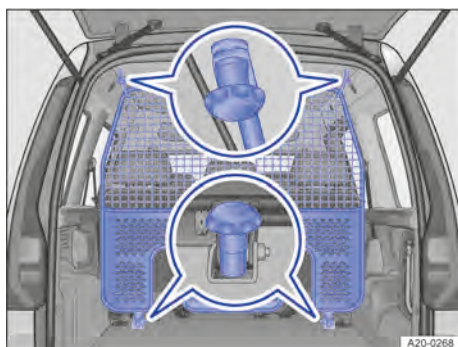

Fig. 153 In the luggage compartment: fitting the adjustable partition behind the second row of seats.
3. Bolt the adjustable partition to the rear fastening points in the roof → Fig. 153.
4. Bolt the adjustable partition to the lower anchor points → Fig. 153.
3. Bolt the adjustable partition to the front fastening points in the roof → Fig. 153.
1. Unscrew the adjustable partition from the lower anchor points → Fig. 153.
2. Unscrew the adjustable partition from the mountings in the roof → Fig. 153.